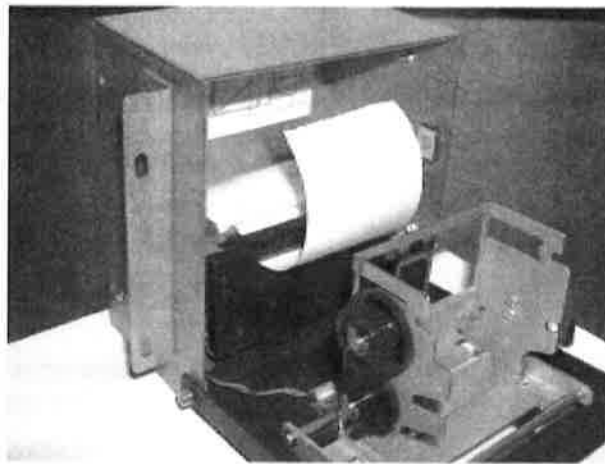

Figure 8-5. Paper Guide
8. Guide paper between paper guide rod #1 and plastic window until it exits at top paper guide rod #2. Make sure paper goes around this guide correctly. Refer to Figure 8-5.
2. While grasping take-up spindle and paper, push take-up release slightly to right until spindle is free. Refer to Figure 8-5 for take-up release position,